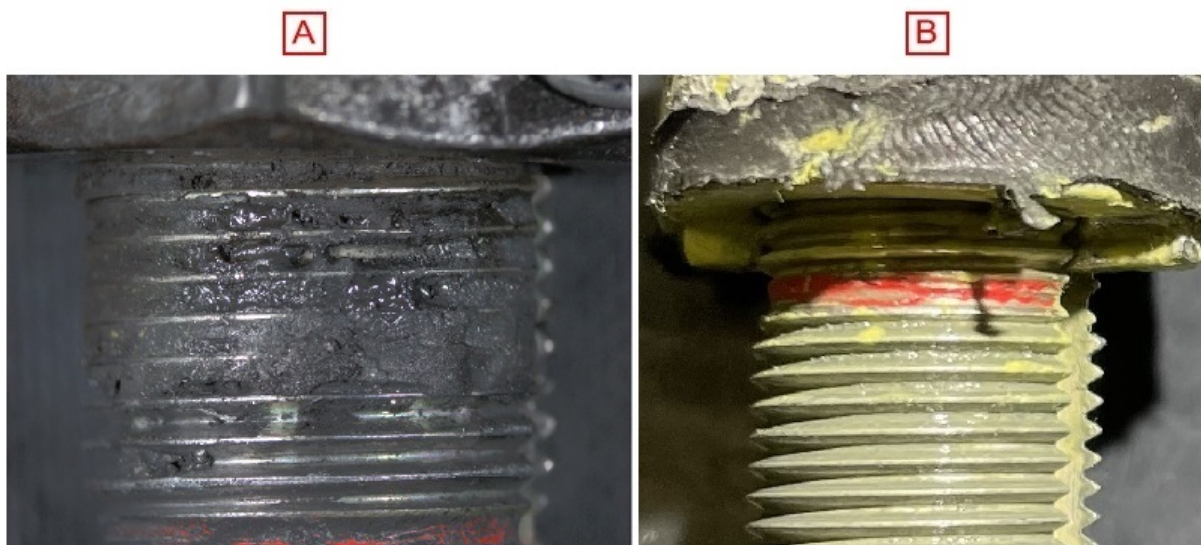

Figure 2
4.3.3. Do a detailed visual inspection of threads of the Ball bearing end 1211351P (1) (Figure 2).
4.3.3.1. If there is no dirt, no corrosion and no damaged threads (Figure 2, Detail B):
- Clean the Ball bearing end 1211351P (1) with Cleaning agent CM 208. Refer to Work Card Use of cleaning products on individual parts and on helicopters - Cleaning MTC 20-04-01-102 Cleaning agent
- Keep the removed Ball bearing end 1211351P (1).
4.3.3.2. If there is dirt (Figure 2, Detail A), corrosion or damaged threads:
- Discard the Ball bearing end 1211351P (1).